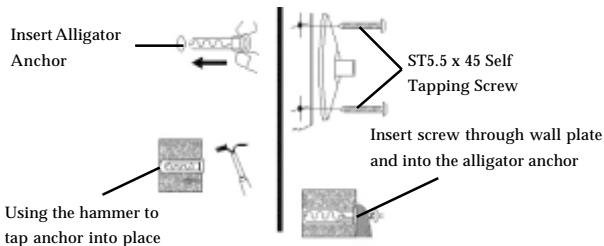

Figure 9
1. Using the wall plate as a template, mark hole positions on the mounting surface. For in-wall applications, position the mounting holes in a vertical pattern, see **Figure 9** on the next page.
2. Drill holes in the solid concrete or hollow block using a 5/16" masonry bit. Once the holes are drilled, insert the # 12-14 alligator anchors into the holes and make sure the anchor is flush with the surface of the wall, see **Figure 9** on the next page.
3. With the wall anchor in place, mount the wall plate using the ST5.5 x 45 self tapping screws, see **Figure 9** above.